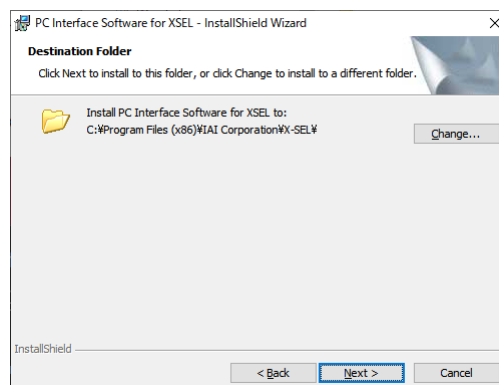

Fig. 1.10 Installation Destination Folder Designation Window
- 8) Designate the destination for installation of the XSEL PC software (Fig. 1.10). Normally, the window as displayed is fine. After designation, click **Next**.